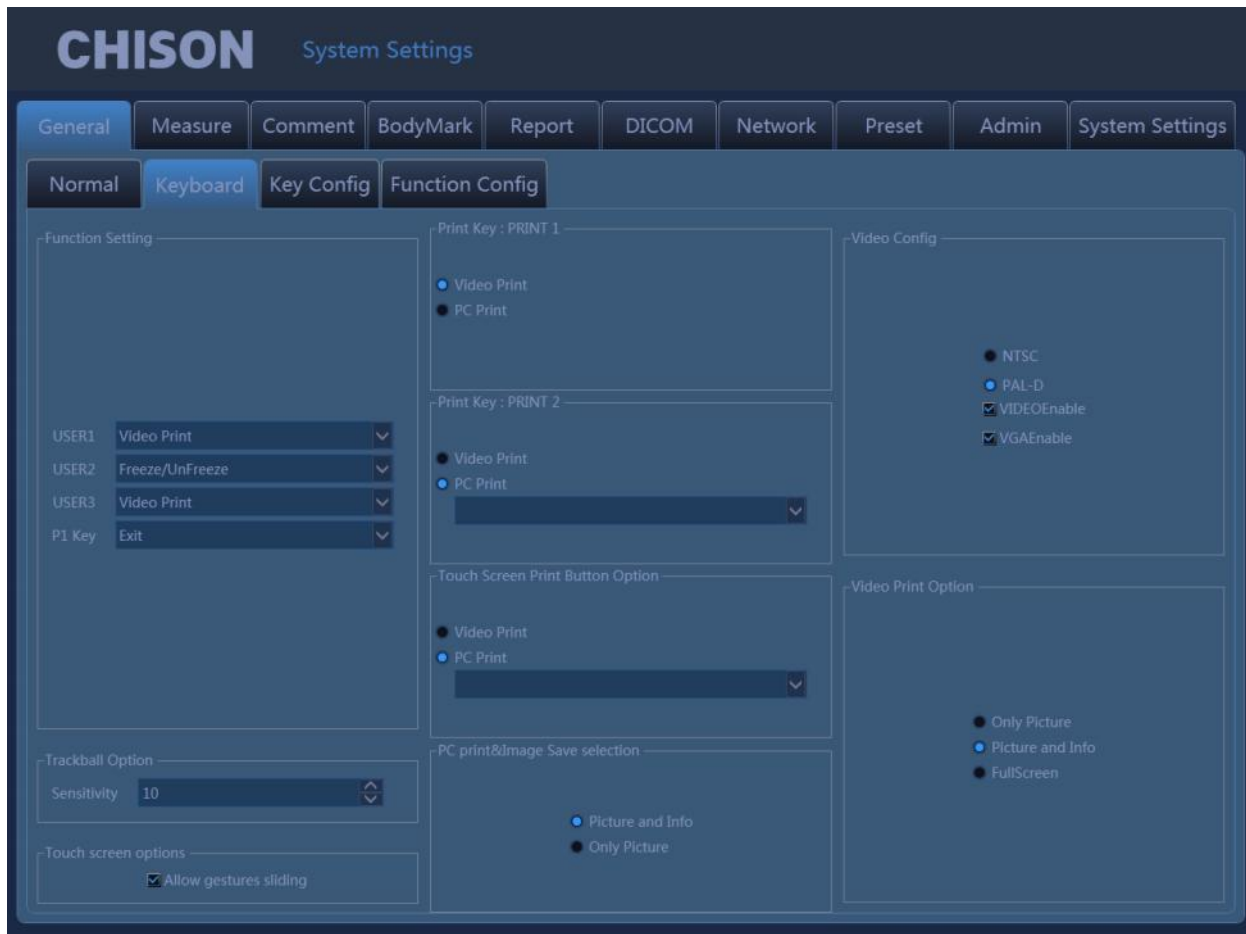

Fig.3-4
- 1) Press the  key to enter "System Settings" interface, select "General", click "Keyboard". See picture in Fig.3-4.